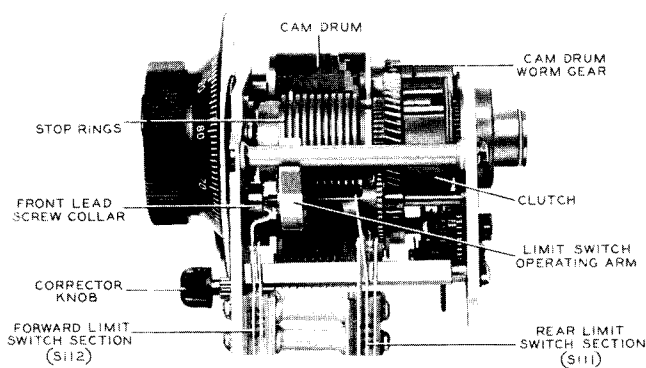

Figure 5-15. Autotune Multiturn Unit—Right Side
(1) The limit switch is composed of a front section, S112, and a rear section, S111, and is located on the right side of the Multiturn or "B" Autotune unit. Refer to figure 5-15.
(2) The rear limit switch section, S111, should be adjusted so that it snaps between the limits of  $3\frac{1}{4}$  to  $9\frac{1}{4}$  turns of the line shaft crank counting clockwise from the time the switch snaps until the collar pin on the switch operating arm is engaged by the rear lead screw collar.
(3) Add or remove shims from the rear end of the front switch section, S112, insulator stack until the foregoing conditions can be met.